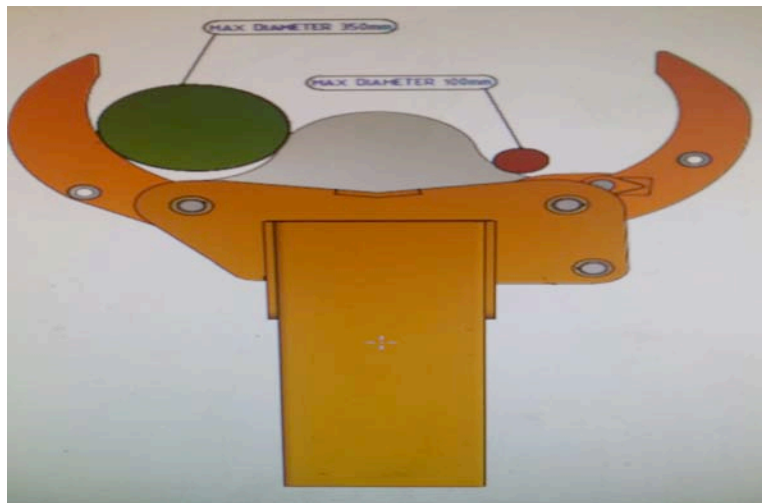

Figure 3. Place the tree to be cut in the left paw pocket.
The operation of the Kmx is based on a work method where the mounting device is used for placing the fixed blade of the grapple against the trunk of the tree to be cut down (refer to Figures 3 and 4 on page 6). With the help of the hydraulic pressure transmitted from the mounting device, the grapple mechanics use the moving paws to press against the blade to cut the tree. The mechanics then press the cut tree against the grapple's chest section, keeping it standing vertical to ensure a safe felling or relocation.
5. The grapple's best cutting capacity is on the left side, see Figure 3. The cutting capacity is weaker on the right side, and the largest permitted cutting diameter there is **10 cm**.